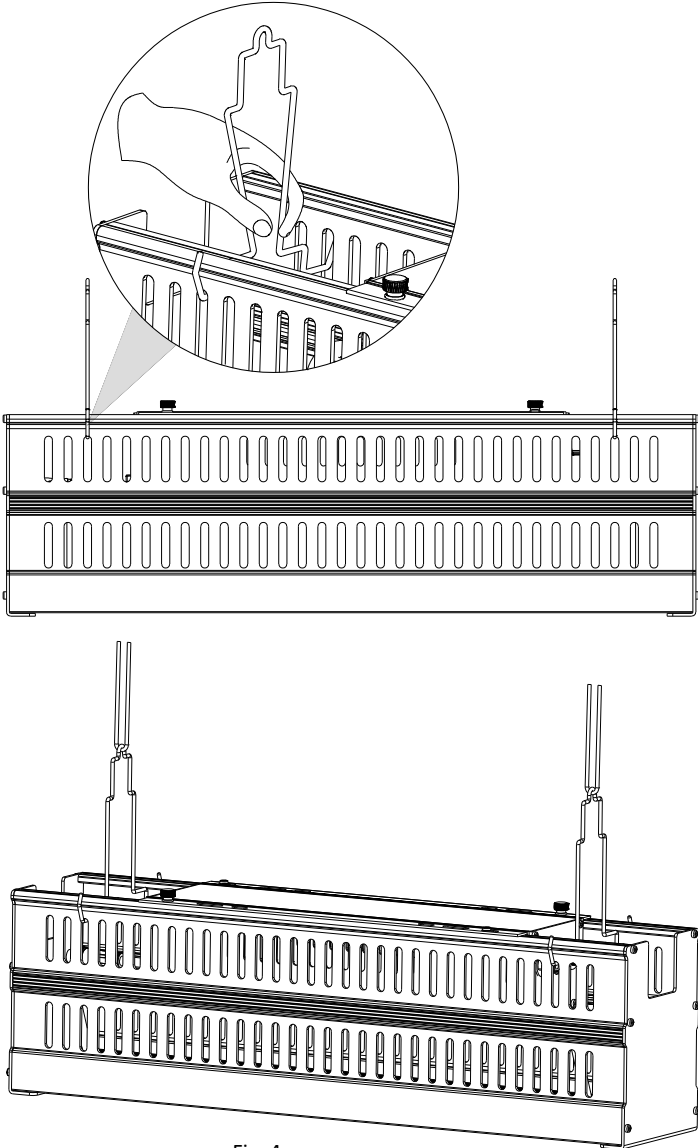

Fig. 4
1) With fixture hanger A (Part E), as Fig. 4.